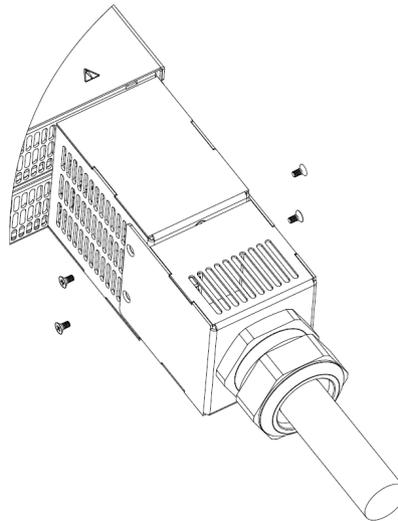
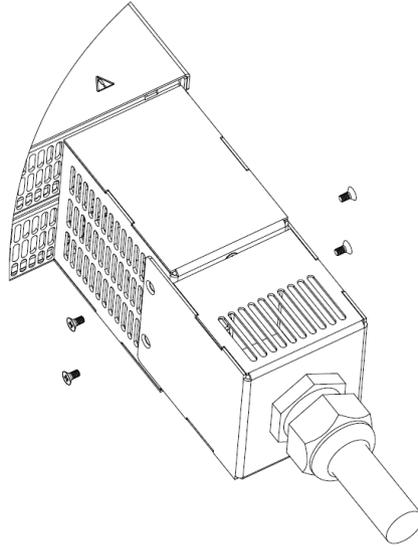
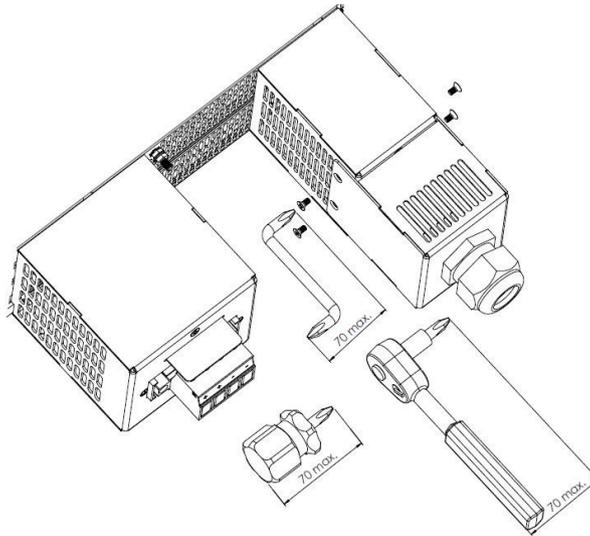

Figure 4-32: Strain Relief Assembled to 3-Phase 200 Power Supply Rear Panel
Figure 4-33: Strain Relief Assembled to 3-Phase 400/480 Power Supply Rear Panel
Figure 4-34: Strain Relief Assembly Maximum Tools Length
8. Fix the strain relief assembly, by 4 M3x8 Flat head screws, supplied in the accessories box, For 3-Phase 200, refer to Figure 4-32. For 3-Phase 400/480, refer to Figure 4-33 (10kW is shown, it applies to 15kW as well). Use short screwdriver, Z-shaped Phillips screwdriver or Phillips bit ratchet as shown in Figure 4-34 (dimensions are in mm). Remember to connect AC input connector into power supply AC input plug.